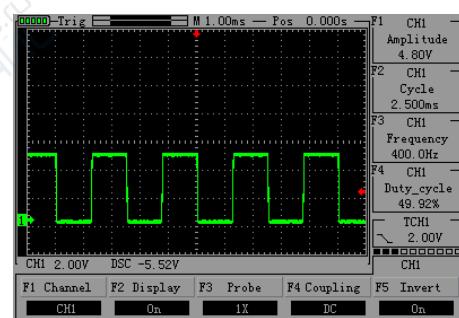

Figure 2-11
- Set the waveform relatively level move up or down. As figure 2-11